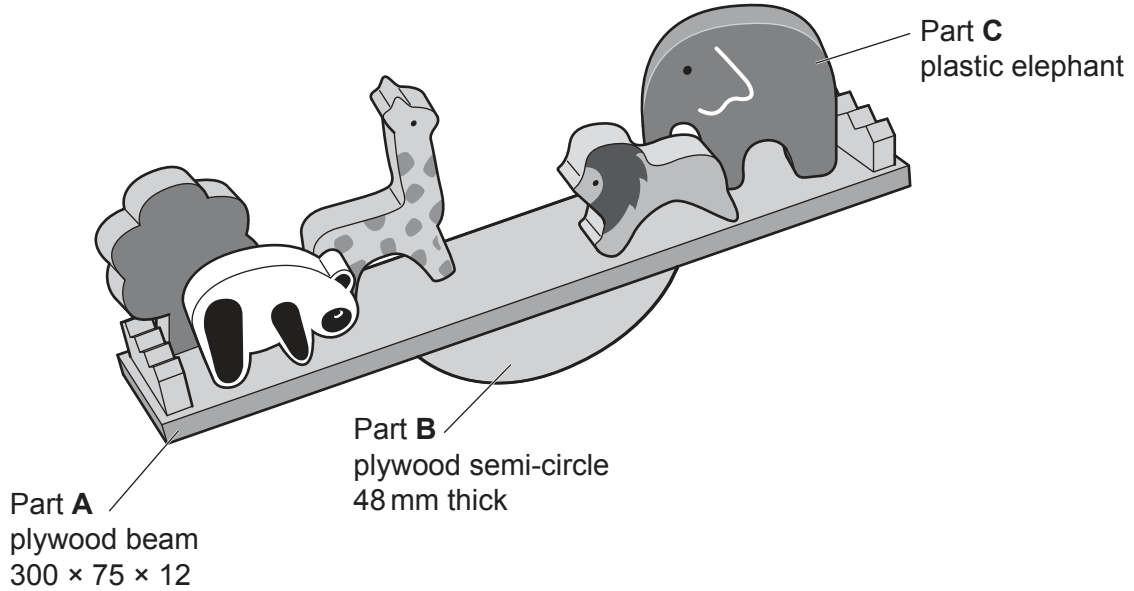

Fig. 1.1
- 1 Fig. 1.1 gives details of a balancing game which is to be made in a school workshop.